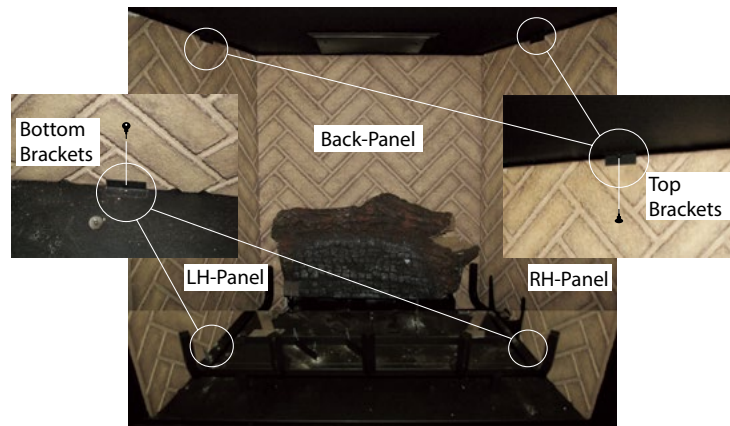

Figure 22. (Removing Refractory panels).
Step 1. Remove the RH-TOP machine screw that hold the Side Refractory panel in place, then the bottom, **Figure 22. (Philips head screwdriver required).**
Step 2. Remove the RH-Refractory panel from the firebox, **Figure 22. (Place the Refractory panel somewhere safe where it will not get chipped or damaged).**
Step 3. Follow step 1 & 2 to remove the LH-Side Refractory panel, **Figure 22. (Philips head screwdriver required).**
Step 1. Remove the RH Refractory Panel as described in **Figure 22.**
Step 1. Remove the LH Refractory Panel as described in **Figure 22**.